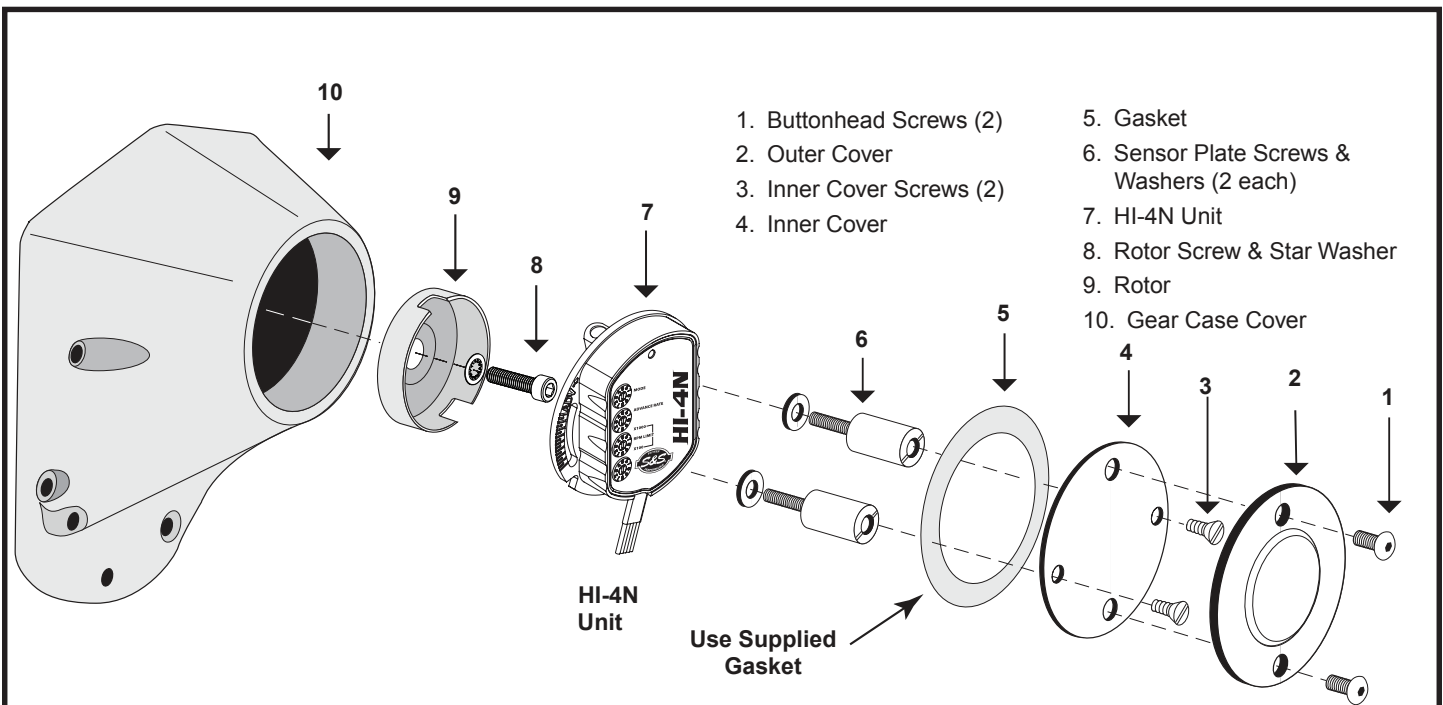

Figure 4
1. The HI-4N requires OE timing rotor Part # 32402-83, or S&S Part # 55-1247. For models prior to 1980, use the supplied 10-32 x 3/4" screw and washer to mount the rotor. Refer to **Figure 4** for parts installation.